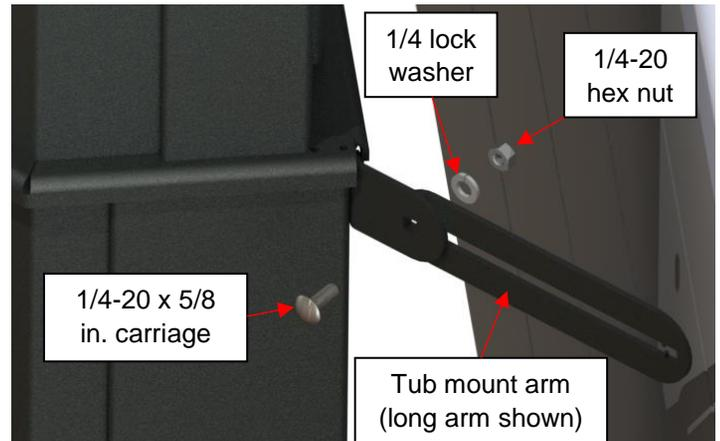

Figure 88
- 2) Depending on the height and the width of the hot tub, fasten the arms (either short or long arms) to the sleeve brackets using 1/4-20 x 5/8 in. carriage bolts, 1/4-20 hex nuts and 1/4 lock washers. Keep these loose for now. (Figure 88)